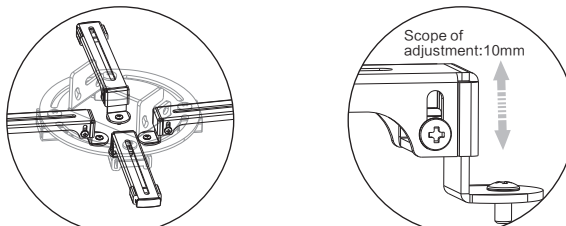

figure 17
3. Connect the installation arms to the projector conversely if the distance of installation holes is less than 120mm. Connect the installation arms (4-3) to the installation base (4-6) via sliding installation button (4-5) as figure 17